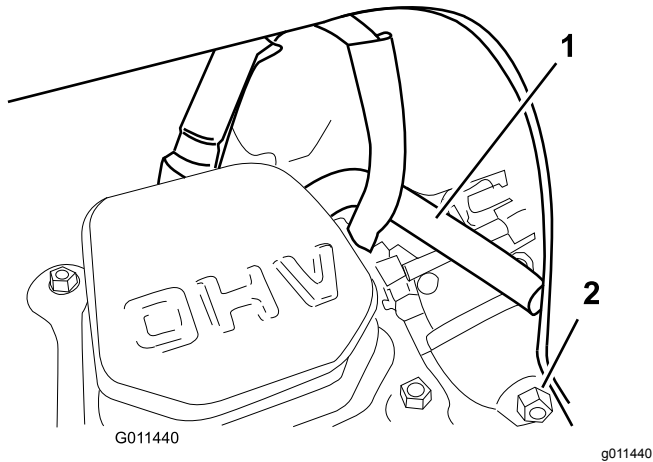

Figure 31
Note: Ensure that the breather tube is routed above the spark-plug wire as shown in Figure 31.
6. Drain the fuel in the carburetor through the carburetor-drain bolt (Figure 31) into an approved gasoline container.